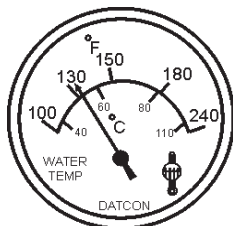

Figure 59. Coolant Temperature Gauge
15. The **coolant temperature gauge** (Figure 59) will indicate the coolant temperature. Under normal operating conditions the coolant temperature should be between 165 and 215 degrees Fahrenheit (**Green Zone**).